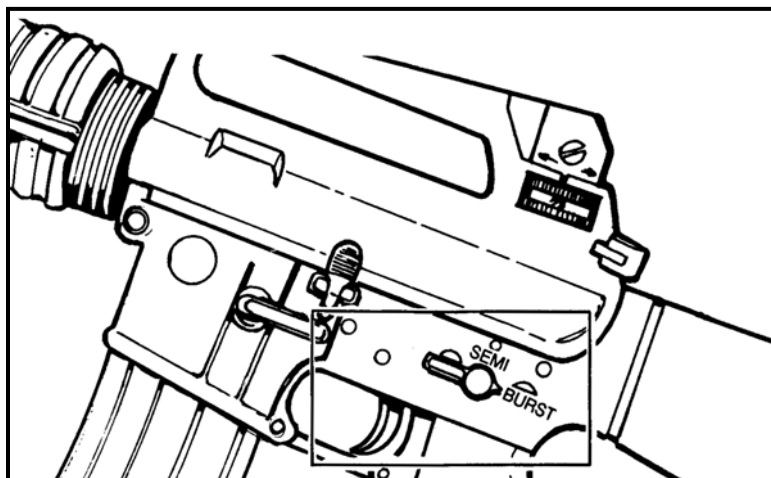

Figure 4-12. Burst fire mode.
c. **Burst Fire Mode (M16A2/A4 Rifle, M4 Carbine).** When the selector lever is set on the BURST position (Figure 4-12), the rifle fires a three-round burst if the trigger is held to the rear during the complete cycle. The weapon continues to fire three-round bursts with each separate trigger pull as long as ammunition is in the magazine. Releasing the trigger or exhausting ammunition at any point in the three-round cycle interrupts fire, producing one or two shots. Reapplying the trigger only completes the interrupted cycle; it does not begin a new one. This is not a malfunction. The M16A2/4 and M4 disconnectors have a three-cam mechanism that continuously rotates with each firing cycle. Based on the position of the disconnector cam, the first trigger pull (after initial selection of the BURST position) can produce one, two, or three firing cycles before the trigger must be pulled again. The burst cam rotates until it reaches the stop notch.